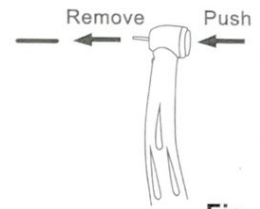

Fig. 5
**Bur Removal:** Push the push button in the head cap with thumb to click, and remove the bur. (Fig.5)